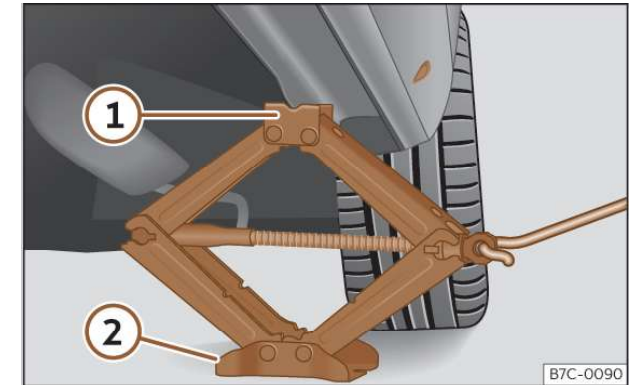

Fig. 207 Crossbar: mounting the jack on the vehicle.
- Turn the jack crank handle, located below the strut support point, to raise it until the tab ① >>> **Fig. 207** is below the housing that is provided.
- Align the jack so that the tab ① “grips” onto the housing provided on the cross member and the mobile base ② is resting on the ground. The base plate ② should fall vertically with respect to the support point ①.